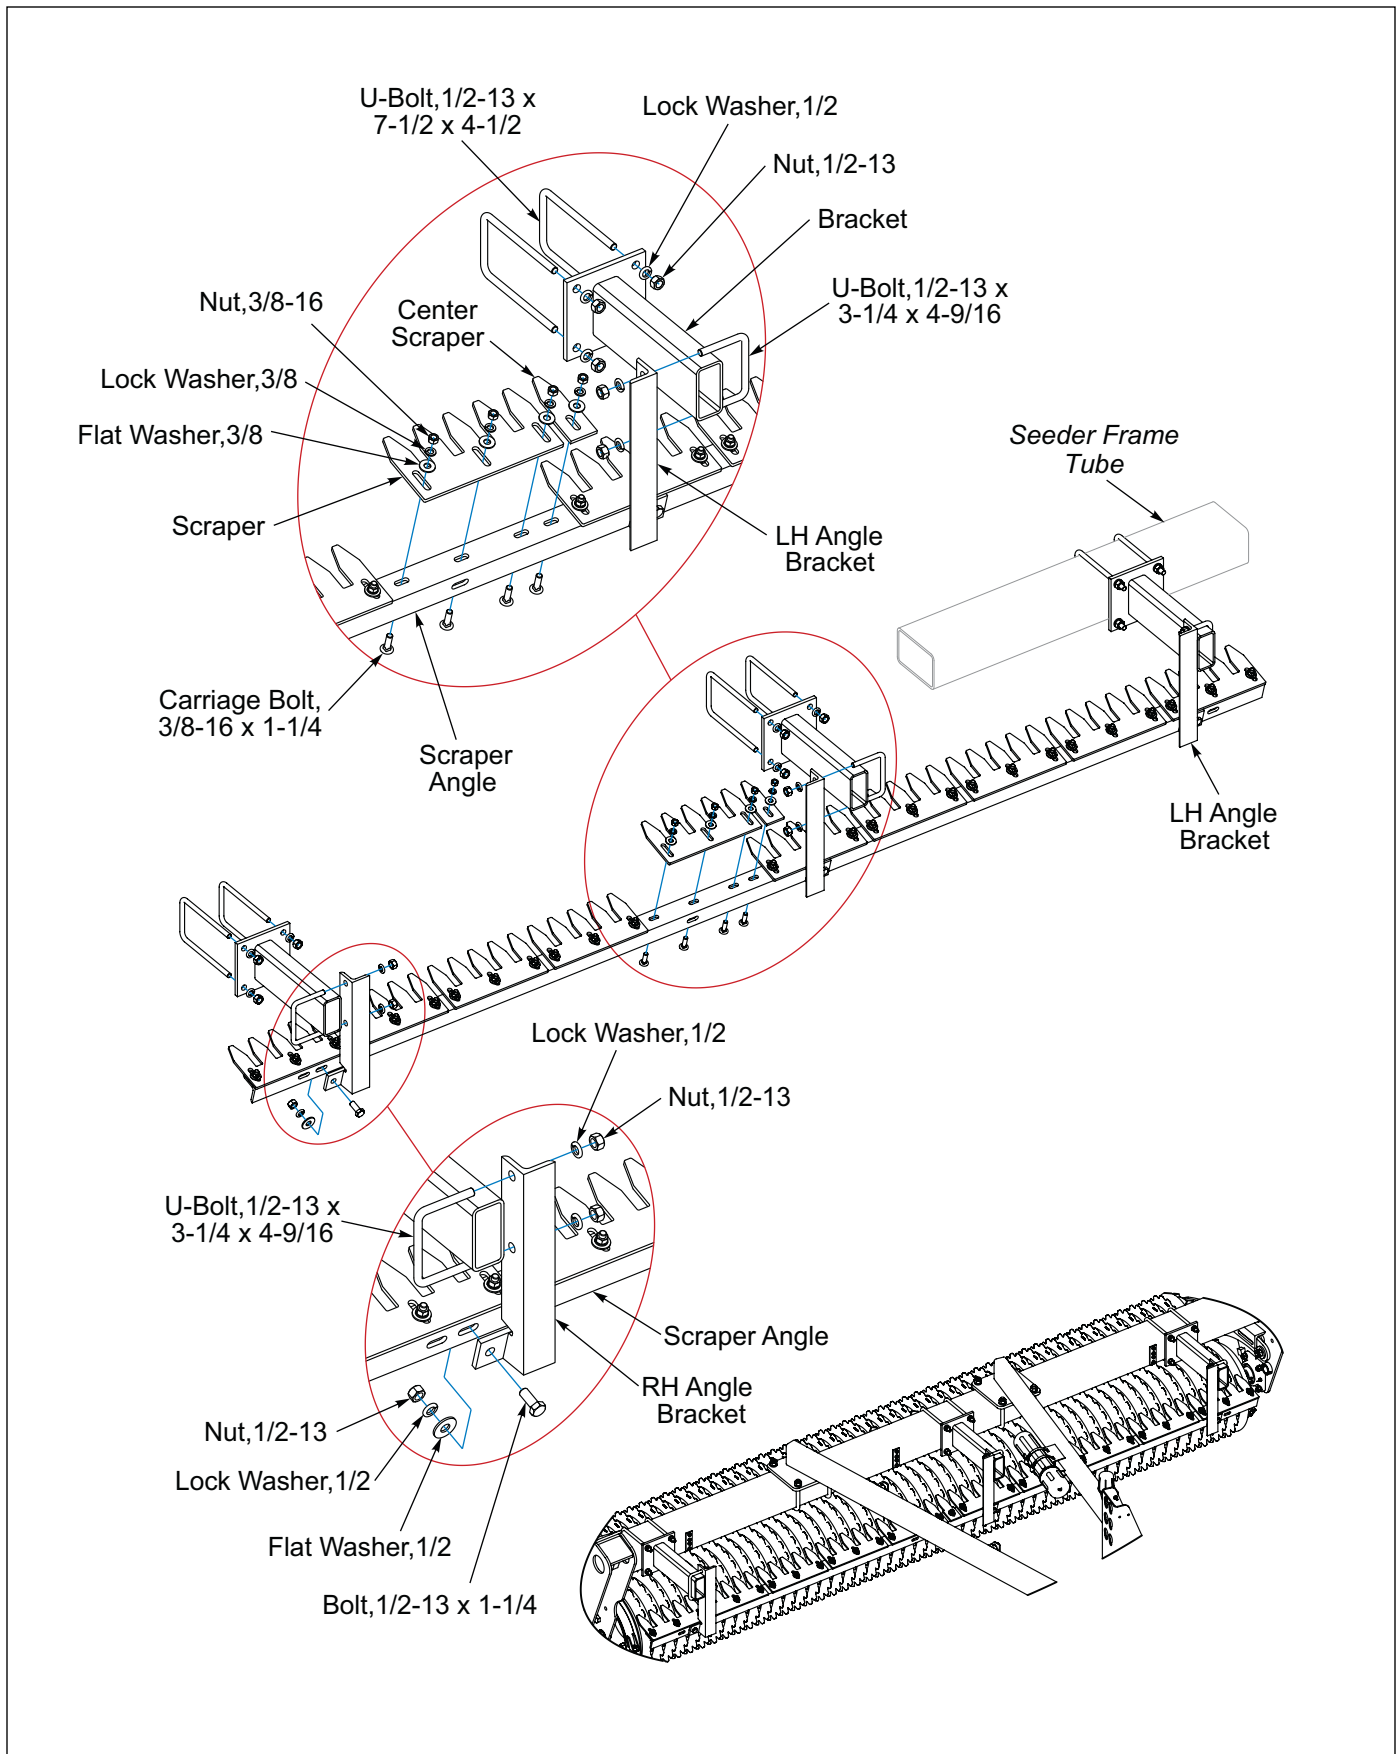

Figure 2-47: Scraper Kit
1. Assemble Brackets to the front of Seeder Frame Tube with 1/2-13 U-Bolts, Lock Washers and Nuts except for the 12FT Drawbar Seeder where you mount the Bracket to the Brace Plate with the Brace Hardware. **Do not** tighten at this time. See Figure 2-47.